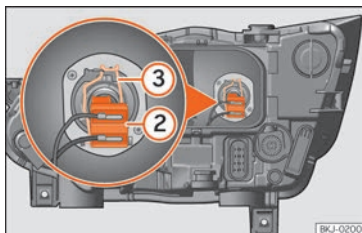

Fig. 56 In the engine compartment: dipped beam headlight bulb.
- Remove the bulb connector » **Fig. 56** ②.
- Unclip the retainer spring » **Fig. 56** ③ pressing inwards to the right.